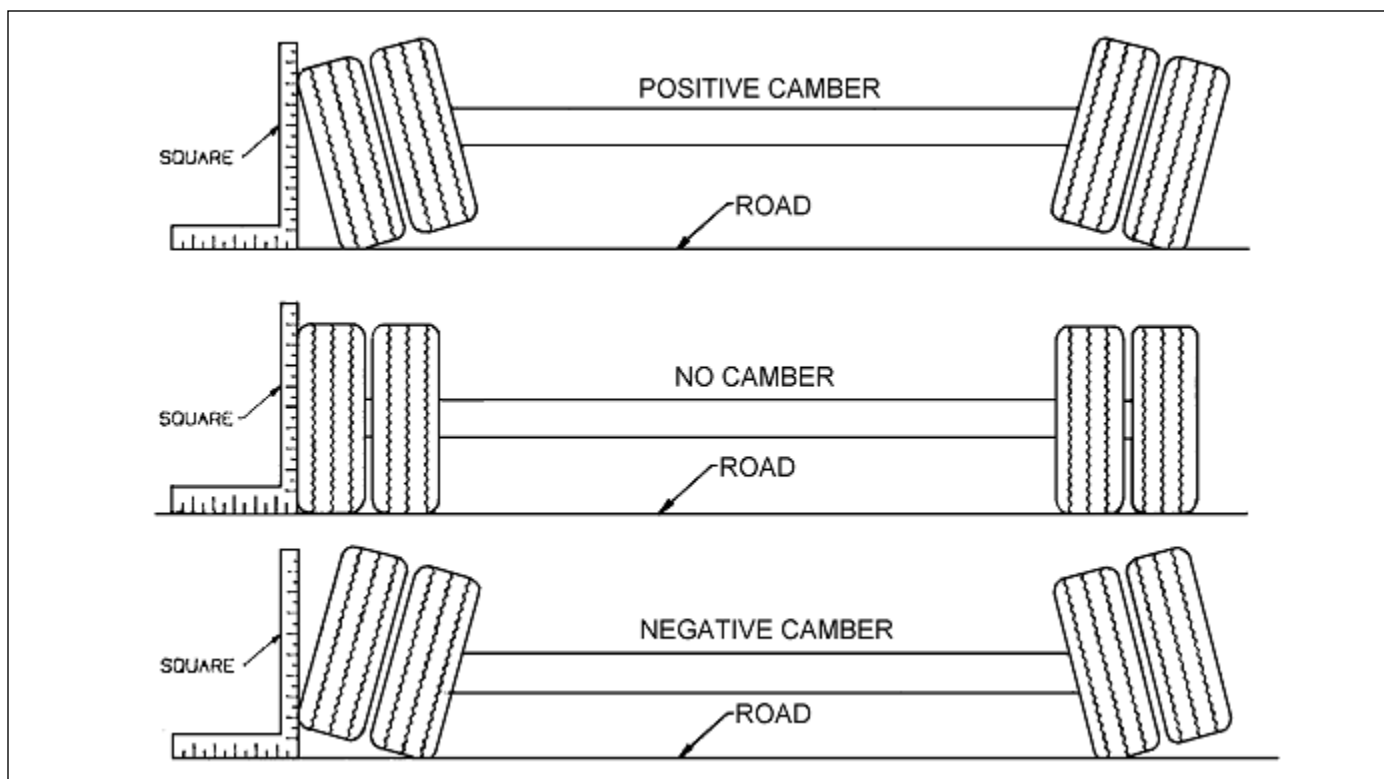

Figure 4-4: Examples of Camber
4. Follow the same procedures as in *steps 2 and 3*, except place the axle gauge above and below the axle. If gauge point gap is found, the axle has positive or negative camber. The trailer axle has no camber from the factory. If it is found to have positive or negative camber, axle replacement is necessary. (*See Figure 4-4*) for examples of camber.